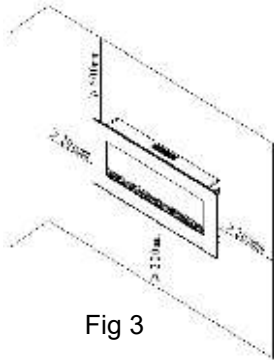

Fig 3
- Select a suitable position to mount the heater horizontally (figure 3). Use a spirit level to achieve this.